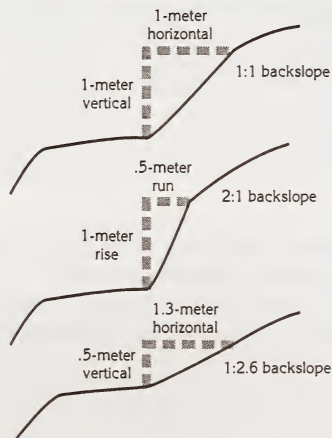

Figure 13—Slopes are noted in metric as a ratio of vertical to horizontal, or "rise" to "run."
While often described as a percent, slopes are also described as a ratio of vertical to horizontal, or "rise" to "run." The protocol for metric (SI) notation continues this tradition, with the additional change of eliminating fractions from the notation. For slopes flatter than 1:1, express the slope as a ratio of one unit vertical to the number of horizontal units. For slopes steeper than 1:1, express the slope as the ratio of the number of vertical units to one unit horizontal. Figure 13 shows examples.